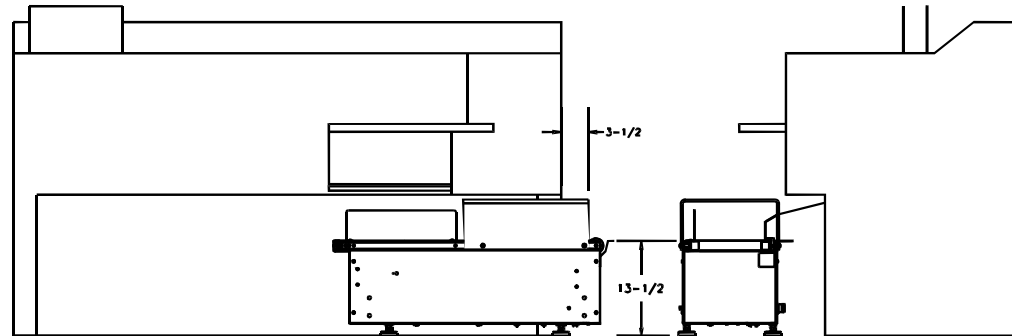

Figure 2-4. Placement of In-feed Conveyor
2. Place the in-feed conveyor approximately flush with the front most face of the binder as shown in Figure 2-4. The covered end of the conveyor faces to the right. The right end of the plastic